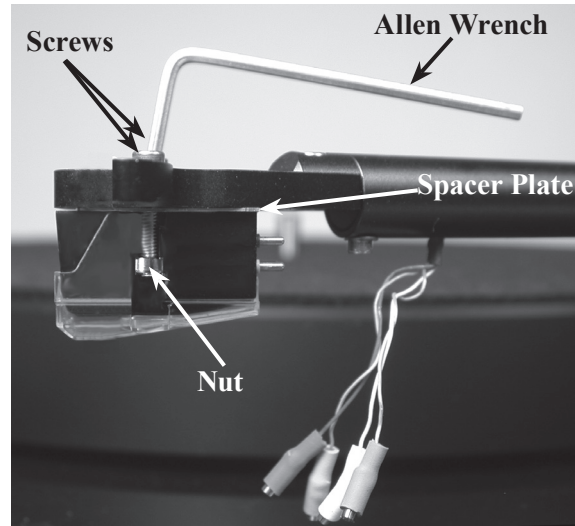

Figure 19
4. Position the Cartridge parallel to front and sides of the headshell and secure it with the supplied screws and nuts using the appropriate tools. Refer to figure 19.